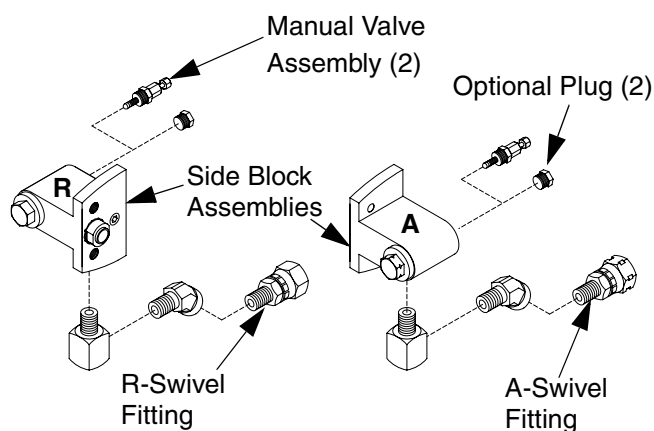

FIG. 4: Side Block Fitting Installation
14. Install fittings on side block as shown in FIG. 4. If using optional ball valves, install optional plugs.